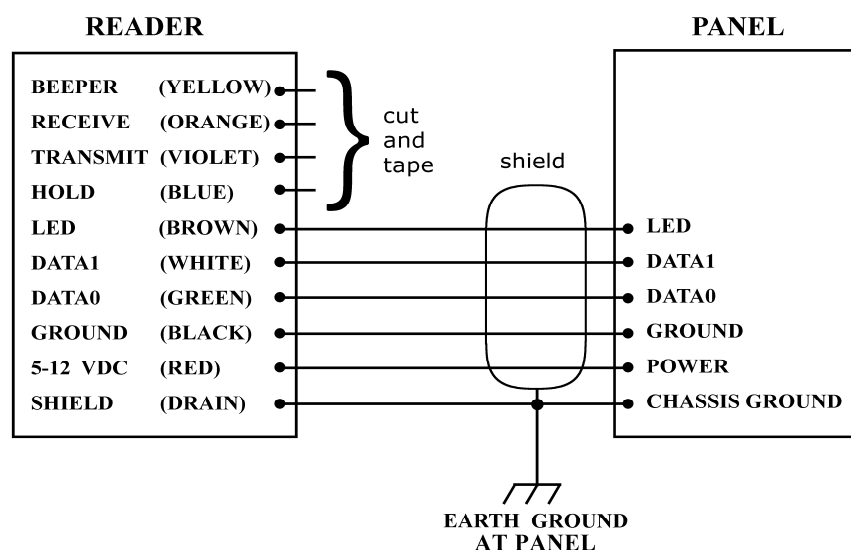

FIGURE 1: Wiring Diagram (Wiegand - see Procedure, Step 4)
4. Connect the reader's cable to the access control panel as shown in Figure 1. Connect the **yellow** wire only if used for Beeper control by the panel. In steps 8 and 9, let the yellow wire **float**. **Do not connect** the *orange* and *violet* wires to anything. **Tape or cap** all unused wires singly.
Note: The number of conductors depends upon use of NDK-2025's LED and Beeper features. See Figure 1.